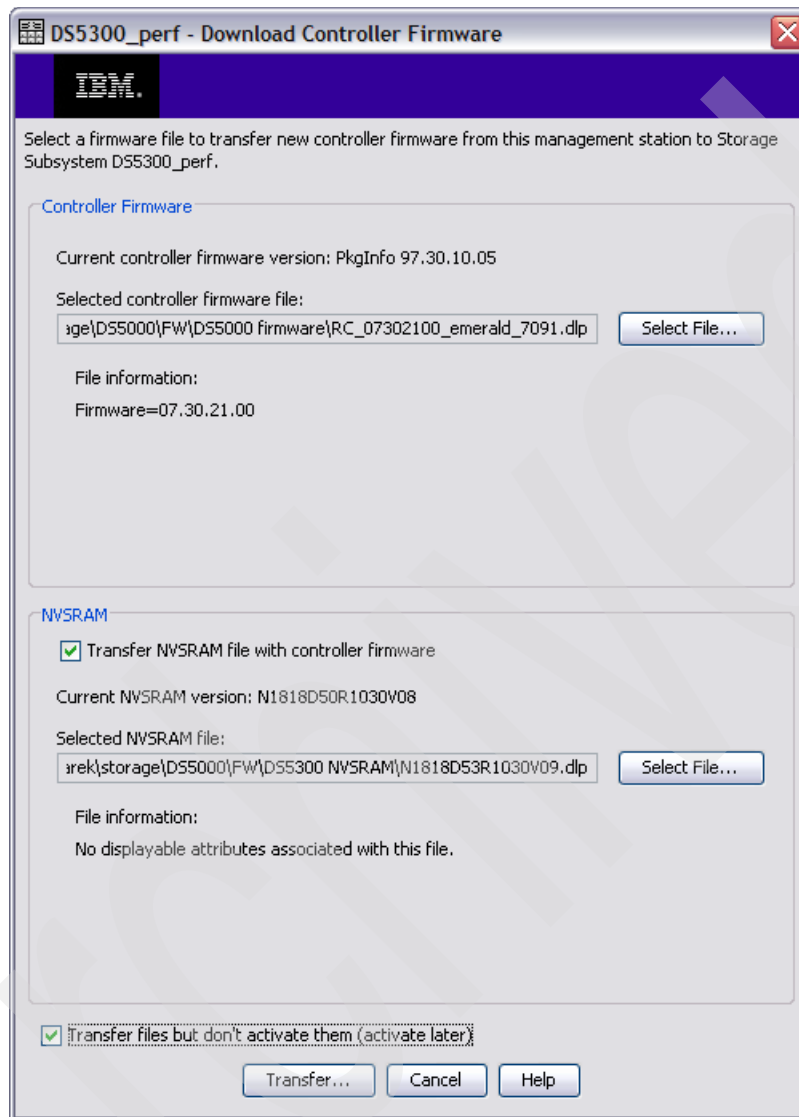

Figure 7-6 Download Firmware window
2. The Download Firmware window opens, showing the current firmware and NVSRAM versions. Select the correct firmware and NVSRAM files, as shown in Figure 7-6. Check the check box to download the NVSRAM file as well.